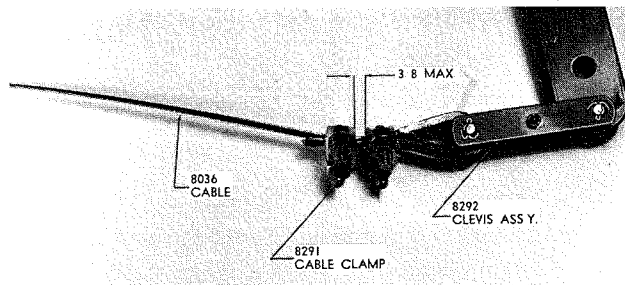

FIGURE 4
Block up the Tiller until it is tight against the transmission case. Insert the thimble into one end of the clevis assembly, item 48 and secure with a clevis pin and cotter. Connect the remaining end of the clevis assembly to the tractor lift arm as shown in Fig. 4.
Wrap the cable around the thimble and remove all slack. Secure with the cable clamps. One clamp directly behind the thimble and the other $\frac{3}{8}$ maximum away as shown in Fig. 4. Cut off excess cable.